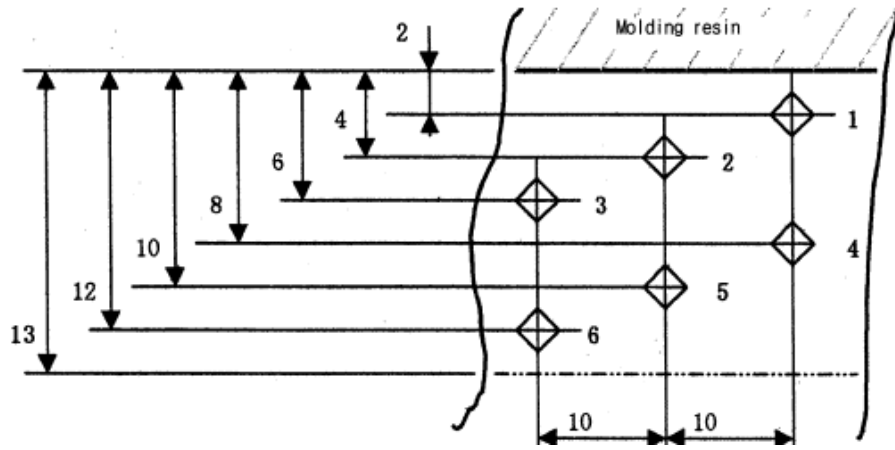

Fig. 2
- 2) Hardness distribution measurements were performed at the location and with the depth intervals of $2\ \mu\text{m}$ starting from the sample surface as shown in Fig. 2